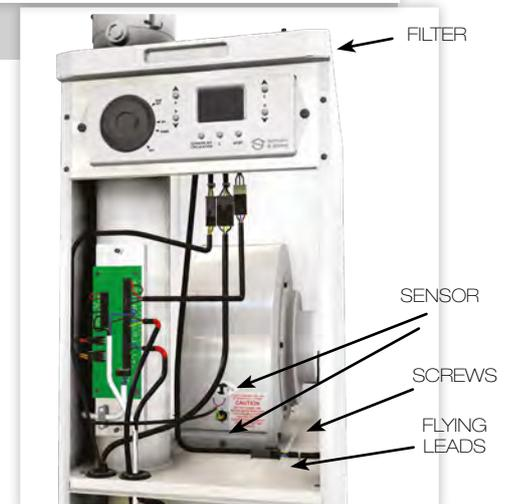

FIGURE 23. FILTER & AIR CIRCULATION FAN
- 16.8.3 Release the fan assembly securing screws, slide the fan assembly forwards on the runners and drop down, remove from the heater cabinet. Avoid damaging the fan blades. See Figure 23.